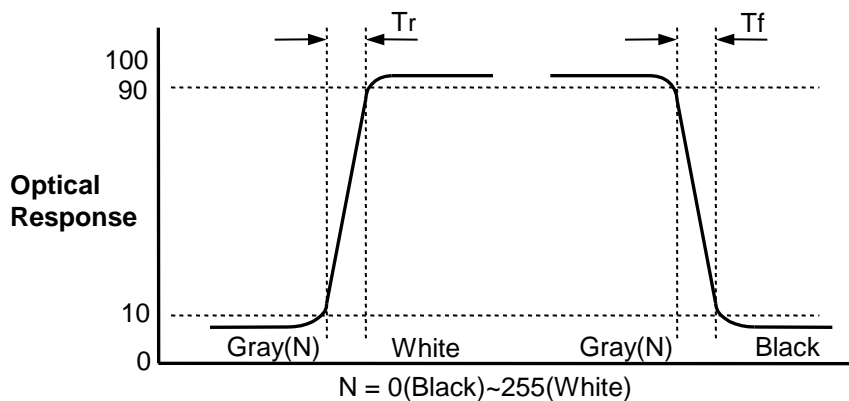

FIG. 3 Response Time
4. Response time is the time required for the display to transit from any gray to white (Rise Time,  $\text{Tr}_R$ ) and from any gray to black (Decay time,  $\text{Tr}_D$ ). For additional information see the FIG. 3.